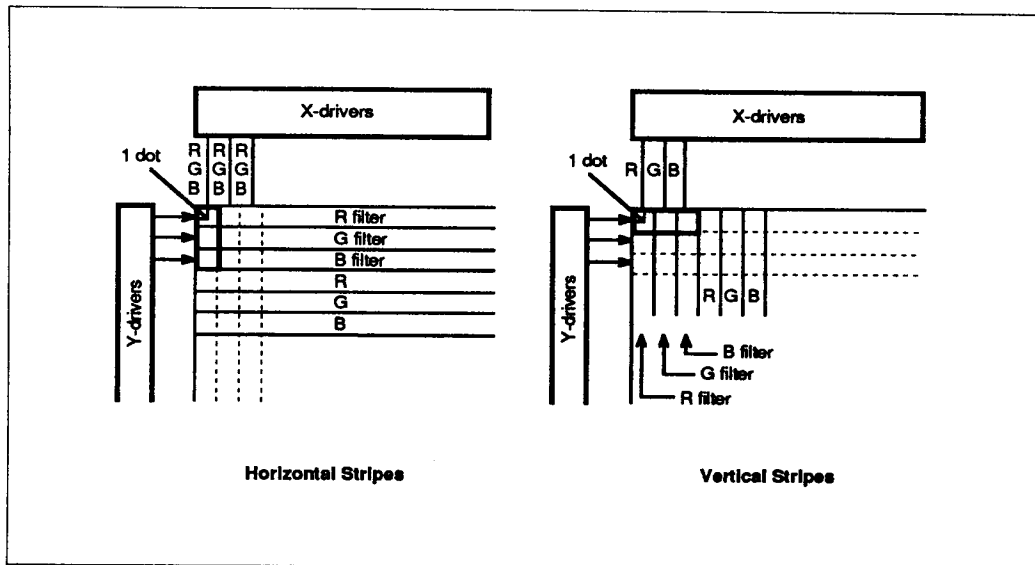

Figure 6 Stripe Modes in 8-Color Display
**8-Color Display (Modes 9 to 16):** The LVIC-II displays 8 colors through red (R), green (G), and blue (B) filters placed on liquid-crystal cells. The eight colors are the same as those provided by a CRT display. As shown in figure 6, 8-color display has two stripe modes: horizontal stripe mode in which the LVIC-II arranges RGB data horizontally for horizontal filters and vertical stripe mode in which it arranges RGB data vertically for vertical filters. Three cells express one dot in both modes.